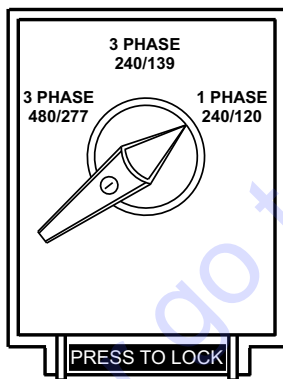

Figure 19. Voltage Selector Switch 1Ø-240/120V Position
1. Place the voltage selector switch in the 1Ø 240/120 position as shown in Figure 19.